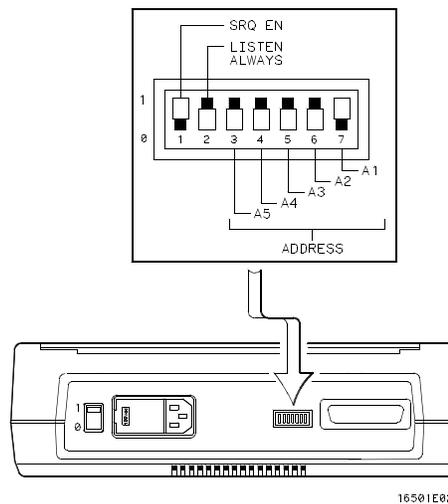

Figure 7-2. Configuration Switches for the HP ThinkJet Printer.
2. Make sure the printer is in **Listen Always** (or **Listen Only**). For example, figure 7-2 shows the HP-IB configuration switches for an HP-IB ThinkJet printer. For the **Listen Always** mode, move the second switch from the left to the "1" position. Since the HP 16500A doesn't respond to SRQ EN (Service Request Enable), the position of the first switch doesn't matter.